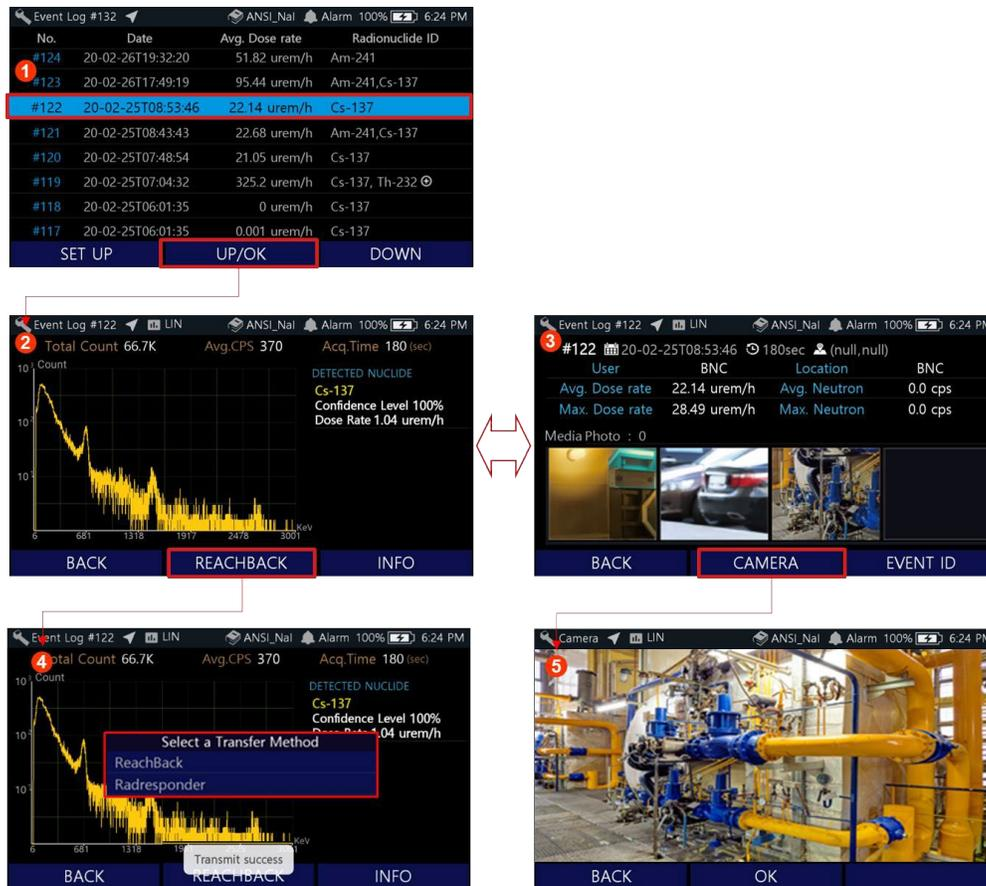

Figure 6.1.2. EVENT ID and EVENT INFO Screen
2. To locate an Event, scroll up/down using the function button and select desired event by press OK button (hold for 2 seconds). Refer to figure 6.1.2.